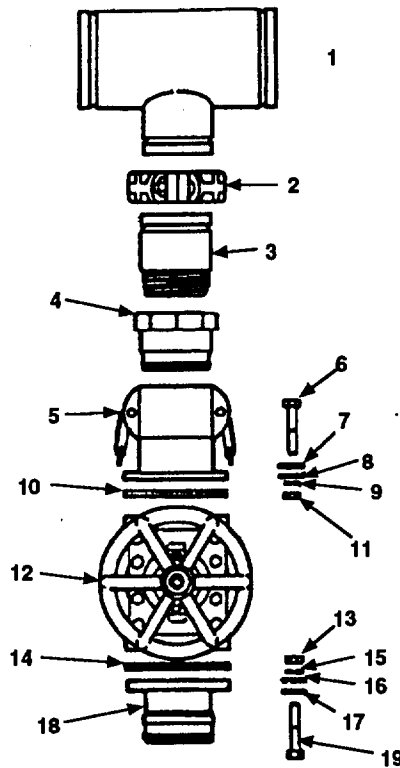

Figure 2-21. Storage Assembly Connection Components Assembly.
- a. Place gasket (Figure 2-21, 14) on male flanged coupling half (18). Place 4 inch gate valve (12) on male flanged coupling half (18). Align holes of 4 inch gate valve (12), gasket (14), and male flanged coupling half (18).
- b. Place eight flat washers (17) on eight bolts (19). Insert bolts through openings on male flanged coupling half (18), gasket (14), and 4 inch gate valve (12).